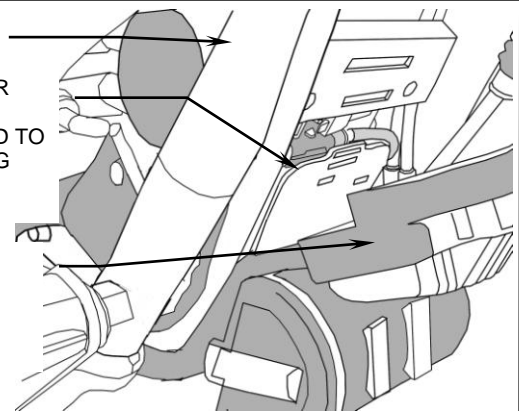

FIGURE 6
9. Continue routing connectors and harness forward along lower right frame rail, be sure to keep clear of brake rod and linkage. Route forward to voltage regulator. Remove the two Allen bolts holding the voltage regulator onto the lower front frame, see Figure 6. Let it drop down, then directly behind that is a black plastic panel. Hinge that panel down to access the plugs behind it. **Continued to next page!**